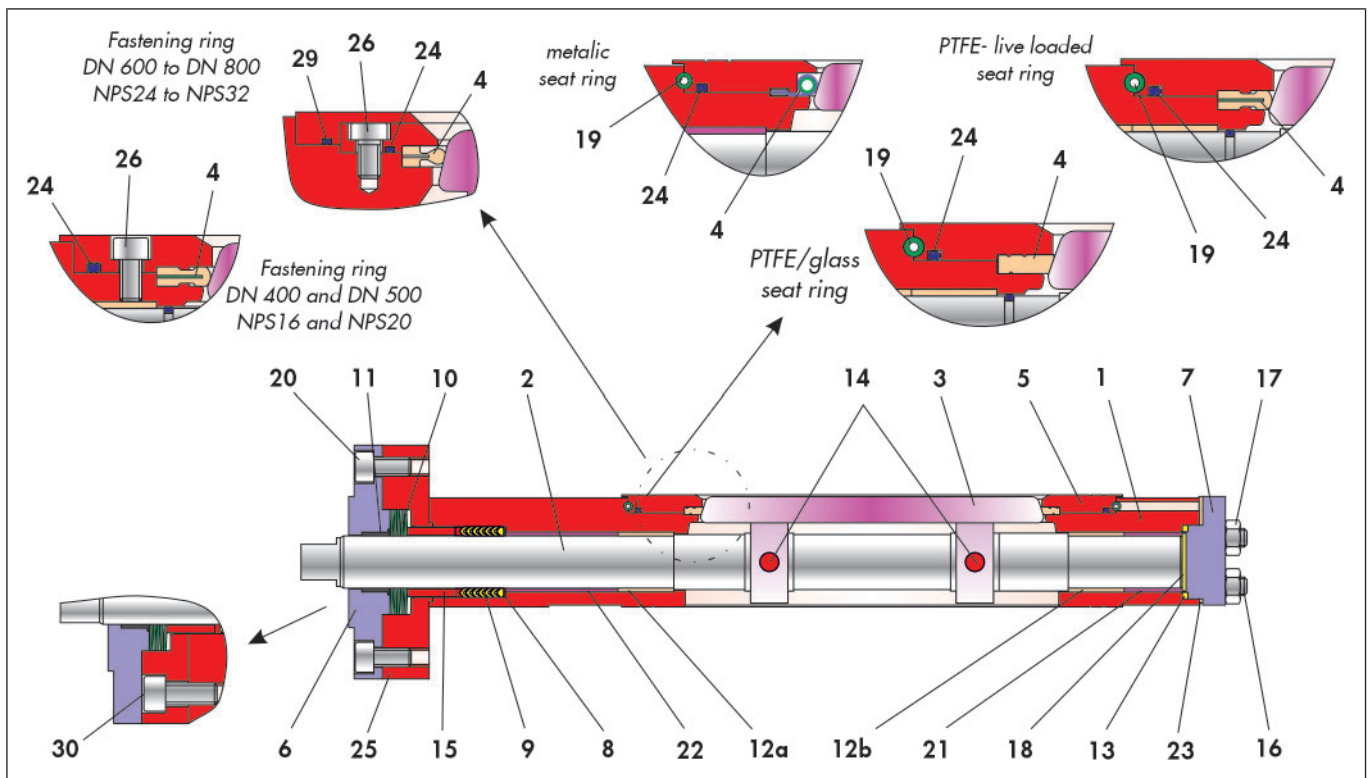

Fig.3-4: Sectional drawing of the BR 14c butterfly valve with spring washer preloaded V-ring packing
- ⇒ Insert the preassembled cover into the bearing bore in the valve body (1) and adjust with the stud bolts.
- ⇒ Tighten the cover (7) with the nuts (17) evenly and in a criss-cross pattern.
- ⇒ Push the disc (8) over the free shaft end into position in the valve body.
- ⇒ Push the PTFE V-ring packing (9) over the control shaft into the body bore and press in with an assembly sleeve. Refer to the sectional drawing Fig. 3-4 for the arrangement of the V-ring packing.
- ⇒ Place the intermediate flange (25) on the valve body and adjust with screws (30).
- ⇒ Tighten the screws (30) evenly in a criss-cross pattern.
- ⇒ Push the thrust ring (15) over the control valve and press it into position in the valve body.
- ⇒ Insert the disc spring set (10). Refer to the sectional drawing Fig. 3-4 for the arrangement of the disc springs.
- ⇒ Press the bearing bush (11) into the stuffing box flange (6).
- ⇒ Fit the preassembled stuffing box flange smoothly over the intermediate flange and adjust with screws (20).
- ⇒ Tighten the screws (20) evenly in a criss-cross pattern.